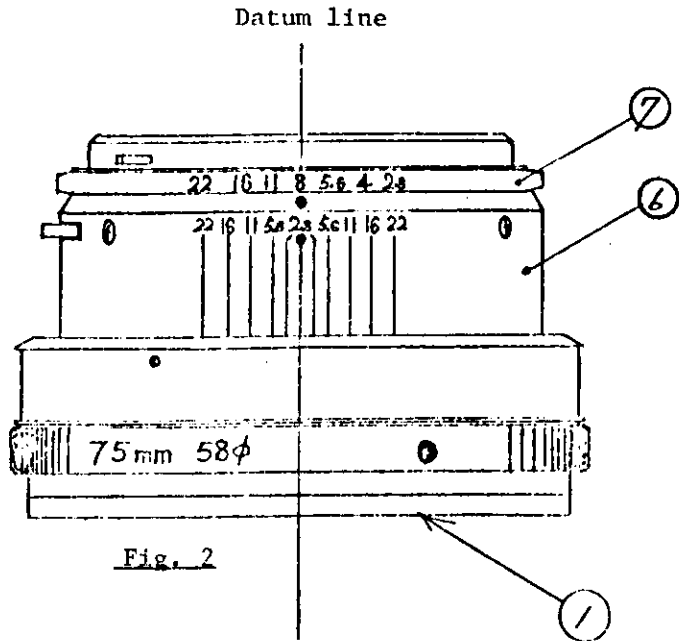

Fig. 2
Confirm that relationship between the position of inscribed marks of the aperture ring (7) and that of depth of field scale ring (6) is on the datum line shown in Fig. 2. If they are deviated in position, adjust them to the datum line by bending 2 aperture arms (9) by the same amount.